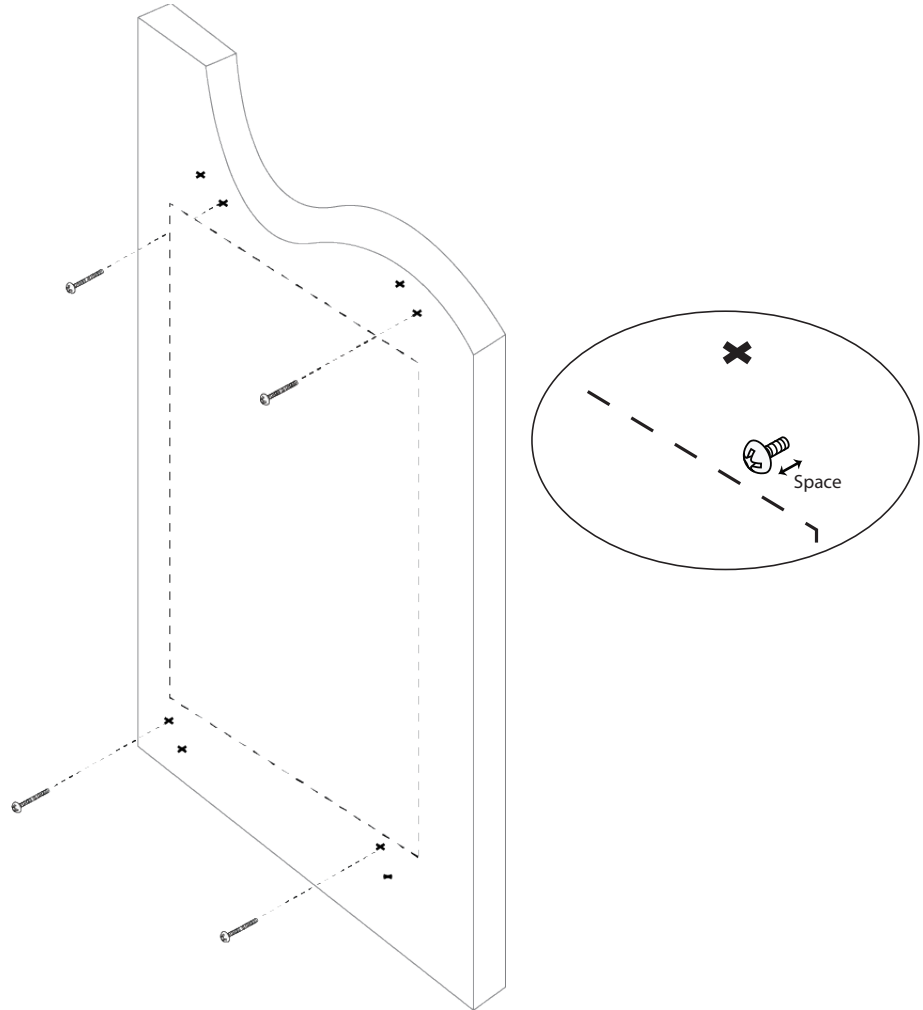

Figure 51. Screwing Four Screws on the Wall
8. Screw four screws to the pre-drilled holes that are closer to the switch, leaving space between the screw heads and the wall. See Figure 51 on page 85.